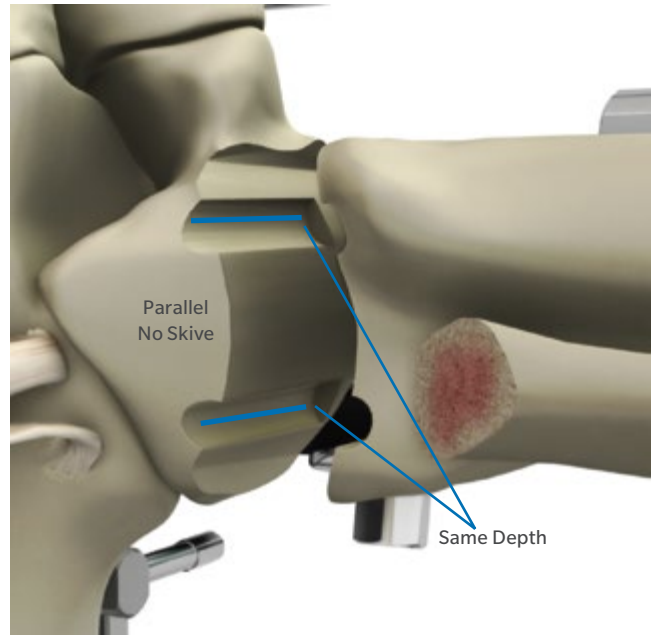

Fig. 78
- Inspect the rail holes to ensure that the drill did not skive, that the holes are consistent in size and that the rail holes are parallel to each other (Fig. 78).